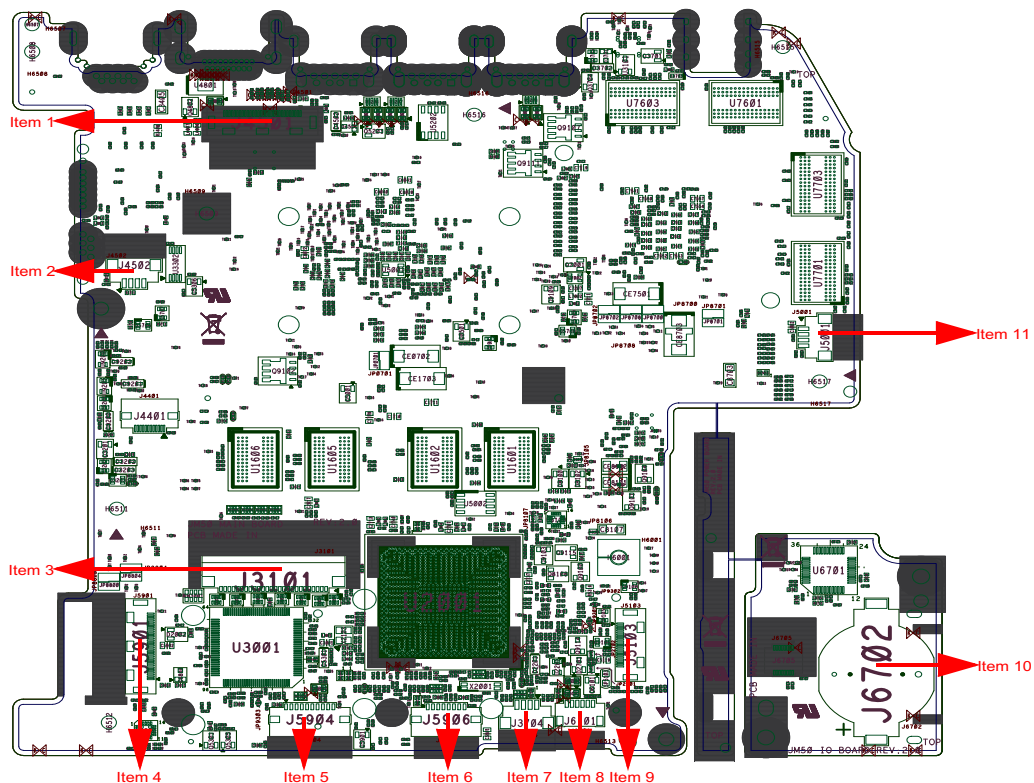

Figure 5-1. Mainboard Top
3. Disconnect the RTC Battery (Figure 5-1 Item10).